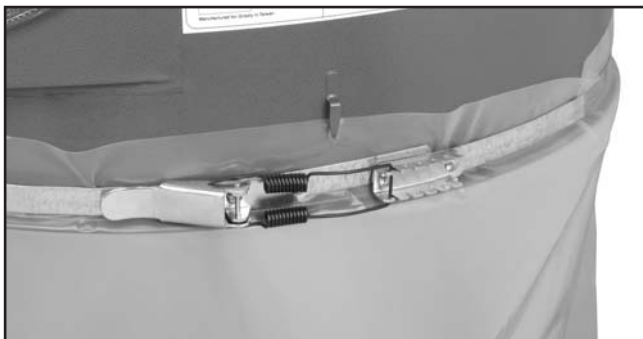

Figure 35. Installing the lower bag.
12. Slip the plastic collection bag over the bottom edge of the collector, snag it on the metal hooks, and then tighten the clamp at the tightest notch possible (**Figure 35**).